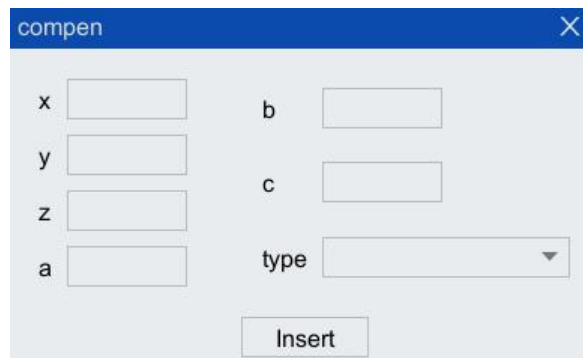

Figure 5-30 "Compen" Instruction configuration interface
Step1. Click "Insert Cmd > Motion Instruction > Tool Compensation > compen" in the toolbar of the program editor, and the [compen] instruction configuration interface as shown in Figure 5-30 will pop up.